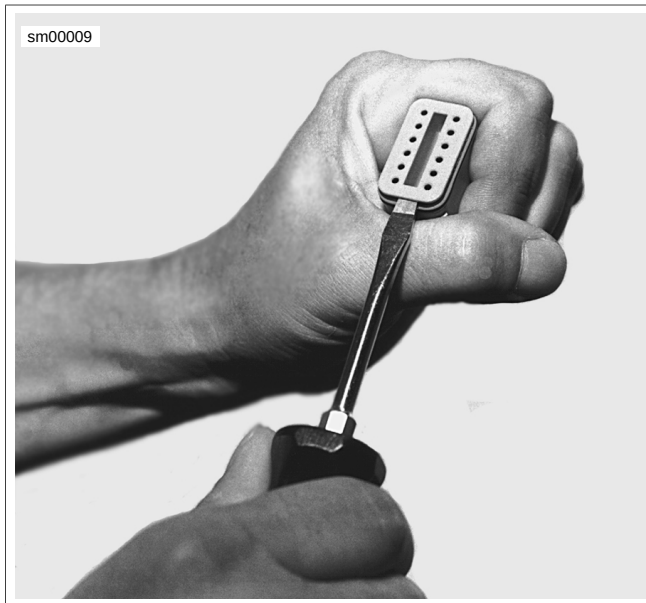

Figure A-16. Deutsch Connector: Remove Secondary Locking Wedge
1. See Figure A-16. Insert a small screwdriver between the socket housing and locking wedge in-line with the groove (in-line with the pin holes if the groove is absent). Turn the screwdriver 90 degrees to pop the wedge up and remove the secondary locking wedge.